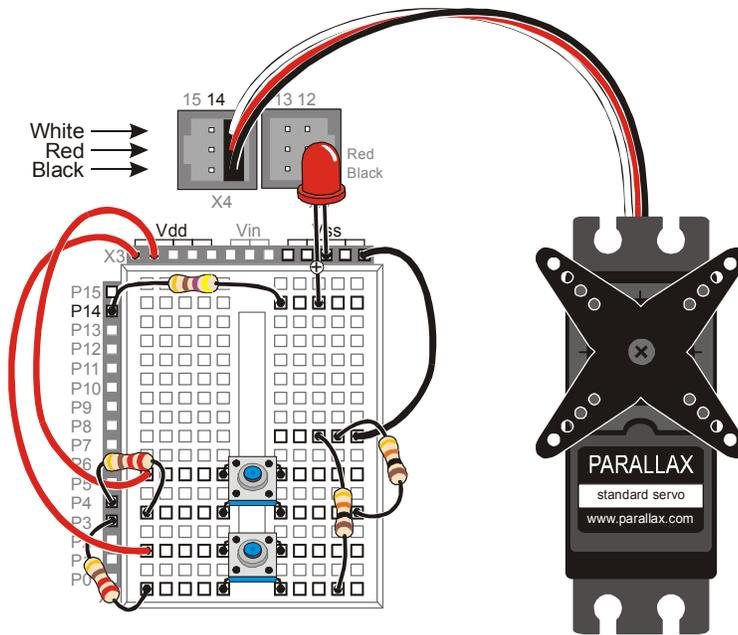

Figura 4-23
- Alla Figura 4-23 se state usando la Board of Education Rev B